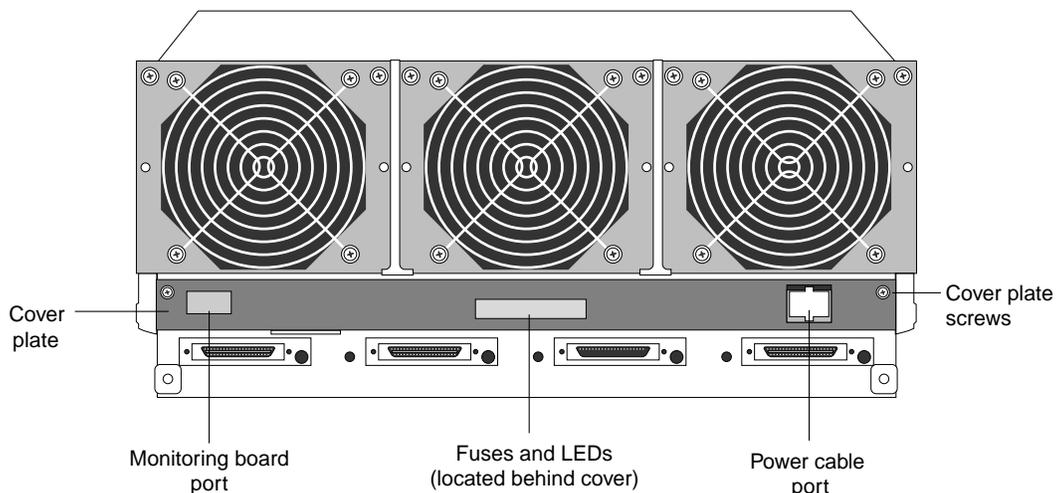

Figure 3. Rear cover plate and power cable cutout
8. Use a #1 Phillips screwdriver to release the rear cover plate on the HDDA chassis (Figure 3).
8. While holding the cover plate in one hand, thread the power cable through the cut-out in the rear cover plate, and connect the power cable to the back of the chassis (Figure 3 on page 4).
9. Reattach the cover plate to the back of the chassis. (See Figure 3 for screw locations.)